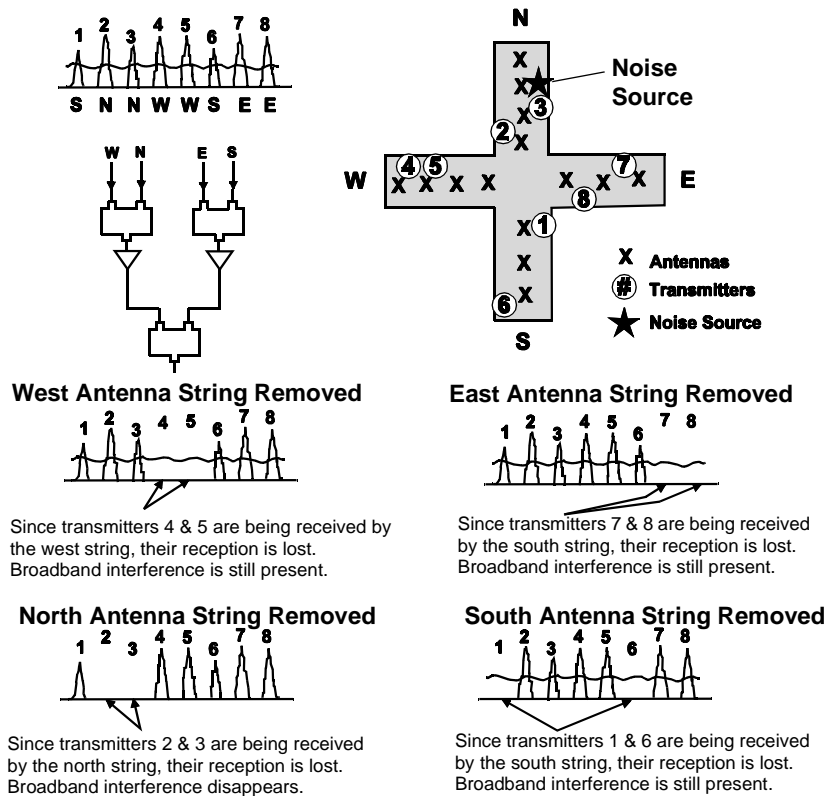

Figure 4-11 Isolating Broadband Interference
2. Locate where the signal enters the system. Remove branches from the antenna system to see when the system quiets down. Remember that any patients that are being received by antennas that have been removed cannot be monitored. Refer to Figure 4-11, Isolating Broadband Interference, for a graphic representation of how to do this.